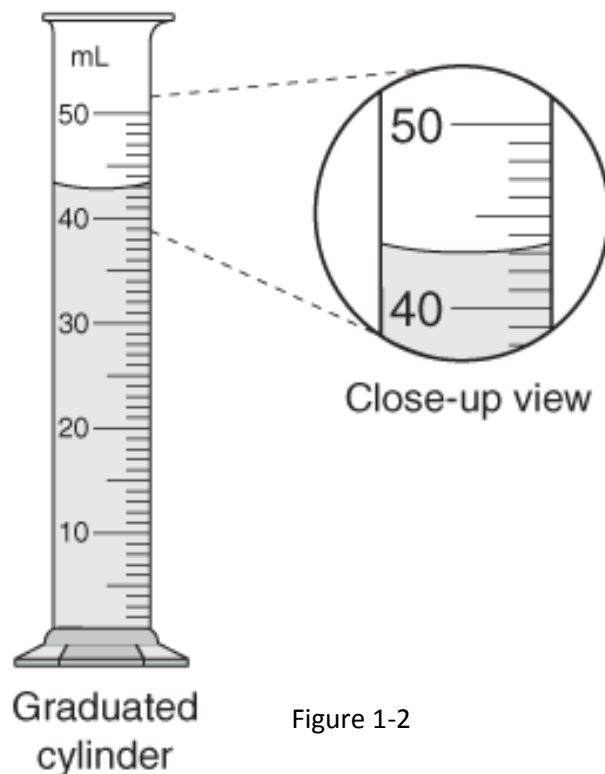

Figure 1-2
2. In the diagram of the graduated cylinder shown in figure 1-2, what fraction of a ml does each division, or increment, between the 1 ml markings represent?
3. What is the volume of the liquid shown in figure 1-2?